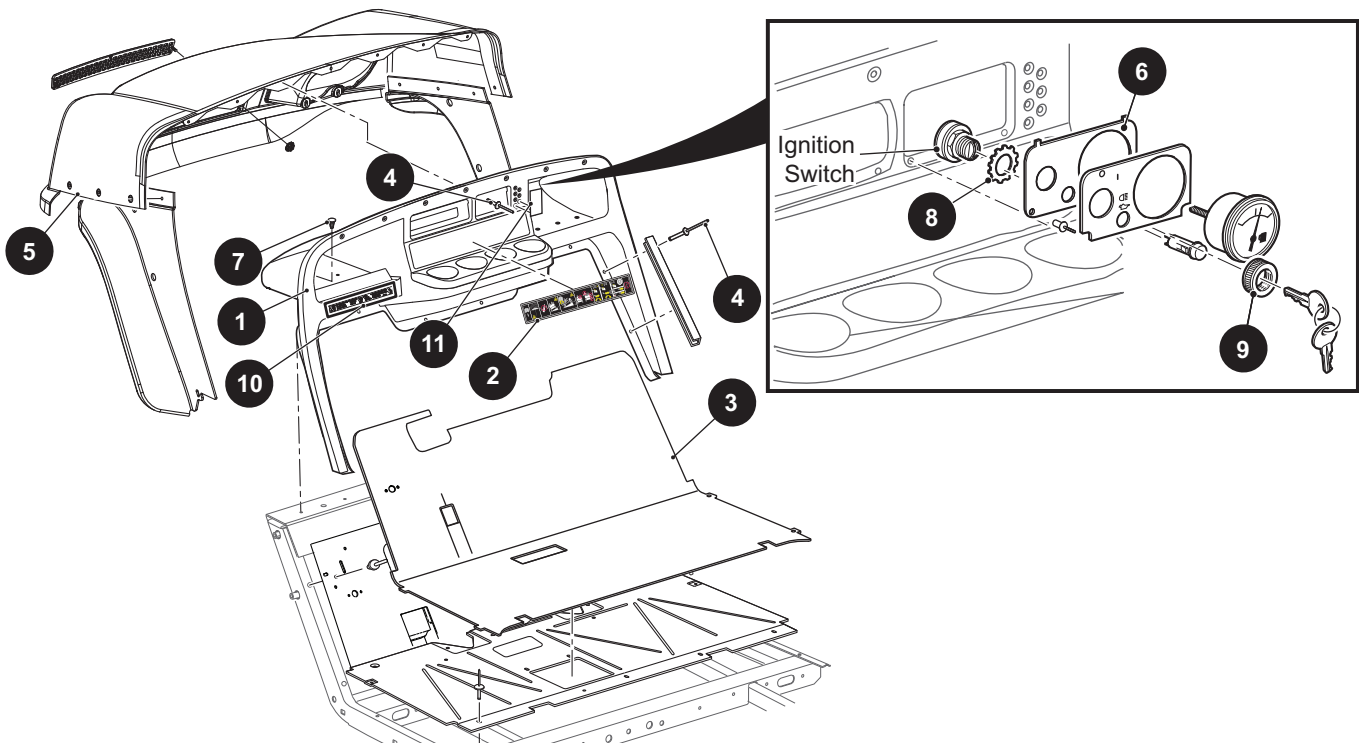

Figure 4 Front Body
NOTICE: The instrument panel (1) may be removed without removing the cowl (5) or may be removed as part of the cowl (Figure 4).
2. Pull the front of the floor mat (3) up to expose the rivets (4), that secure the instrument panel (1) to the floor. Drill out the rivets attaching the bottom of the instrument panel (1) to the floor and across the top of the instrument panel attaching it to the cowl (5) (Figure 4).
3. Remove the four ratchet rivets (7) (two in either compartment) located within the instrument panel in storage compartments.
7. Connect the wires to the switches and reposition the new instrument panel. Use new pop rivets (4) and ratchet rivets (7) to install the new instrument panel.